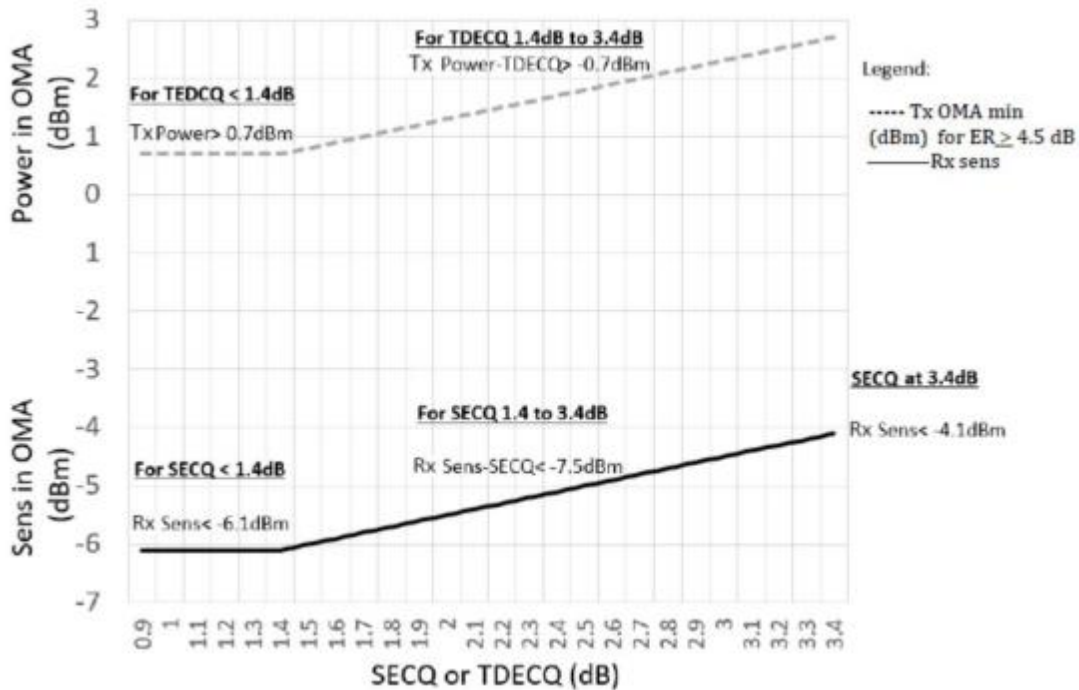

Figure 4. Illustration of Receiver Sensitivity Mask for 4x100G LR
6. Receiver sensitivity ( $OMA_{outer}$ ) is informative and is defined for a transmitter with a value of SECQ up to 3.4 dB. Receiver sensitivity should meet Equation (1), which is illustrated in Figure 4.